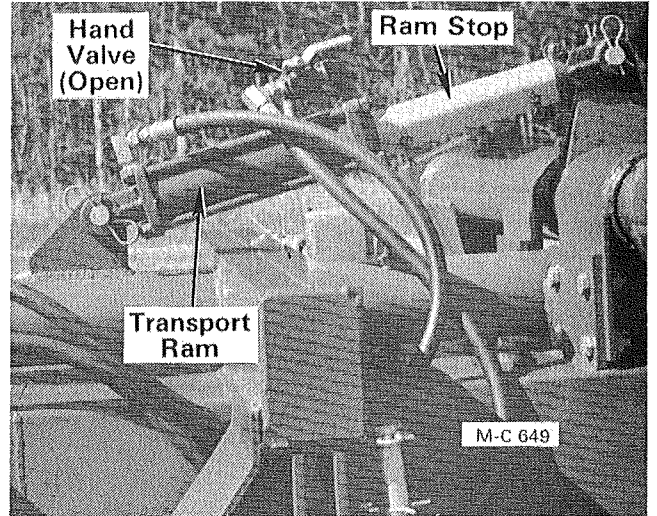
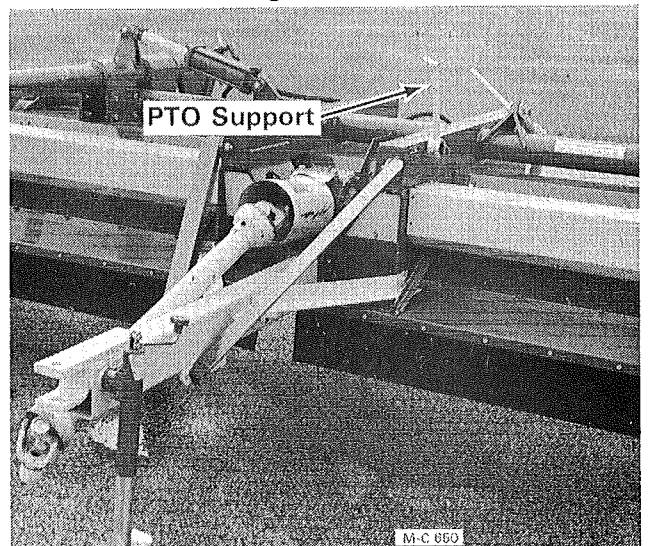

Figure 15A
Figure 15B
3. Remove the transport ram stop, see Figure 15A. Remove the PTO shaft support from the pole, put it on the mount on the left side of the Shredder and run the hydraulic hoses through it, see Figure 15B.
4. Remove the pole jack from the mount on the right side of the Shredder, put it on the pole and lower the jack to the ground, see Figure 15B. Start the tractor and lower the right